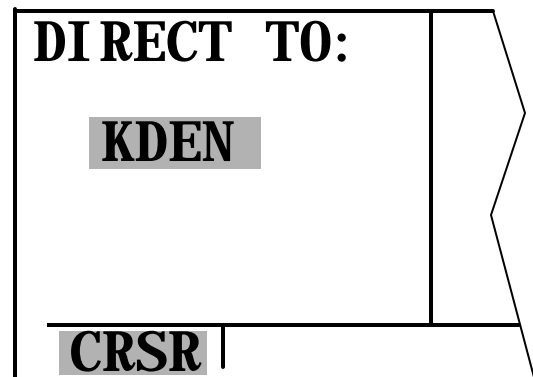

Figure 3D-8. Direct To Page
a. The **→** button is used to initiate navigation from the present position direct to a waypoint. When the **→** button is pressed, the Direct To page, Figure 3D-8, will be displayed on the left side with a flashing cursor over a waypoint identifier. The waypoint identifier that displays on the Direct To page is chosen by the KLN 90B according to the following rules.